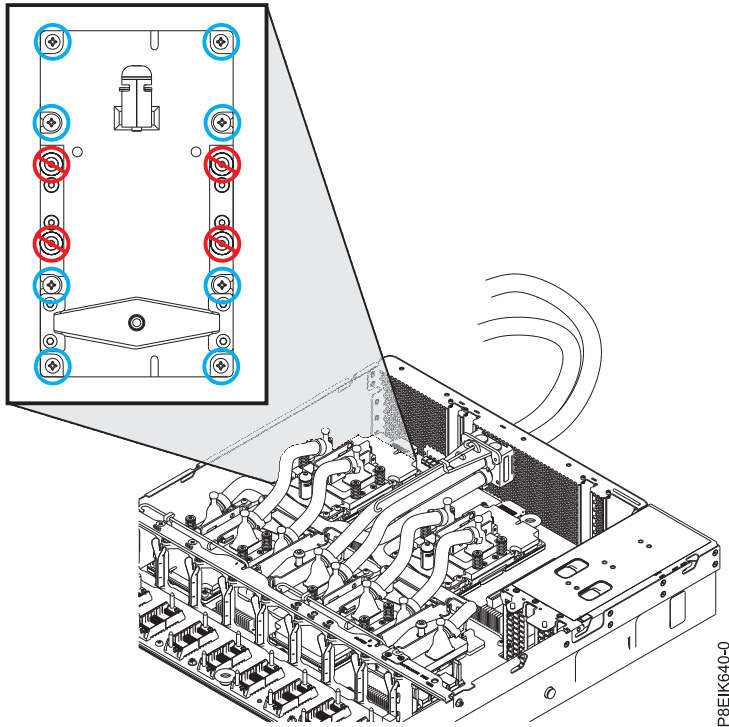

Figure 80. Remove eight GPU screws per GPU; do not loosen the four spring-loaded screws
4. For the GPU you are removing, remove the eight screws shown in Figure 80 on page 66.